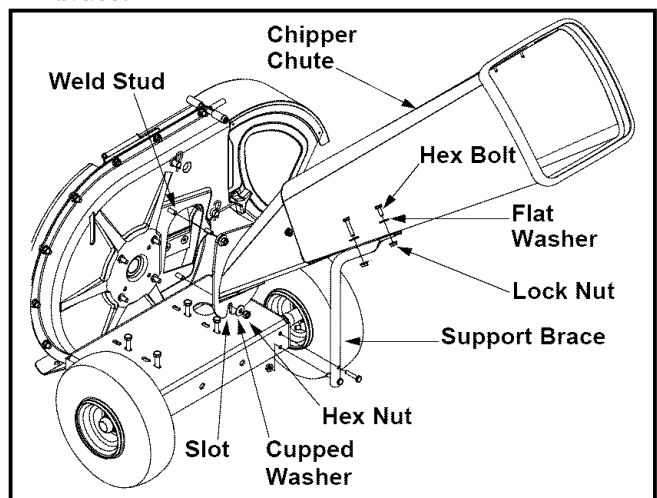

Figure 4
- Remove the three cupped washers and hex nuts from weld studs around the opening on the side of the impeller housing. See Figure 4.